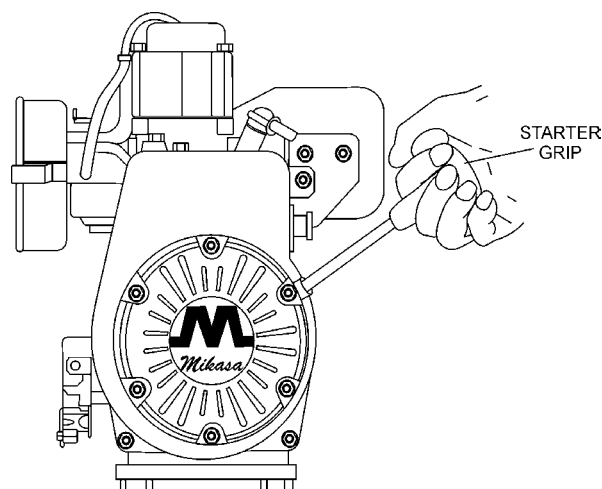

Figure 11. Recoil Starter
5. Grip the recoil starter (Figure 11) handle and pull it until you feel a slight resistance. Then pull sharply and quickly. Return the recoil starter handle to the starter position before releasing.